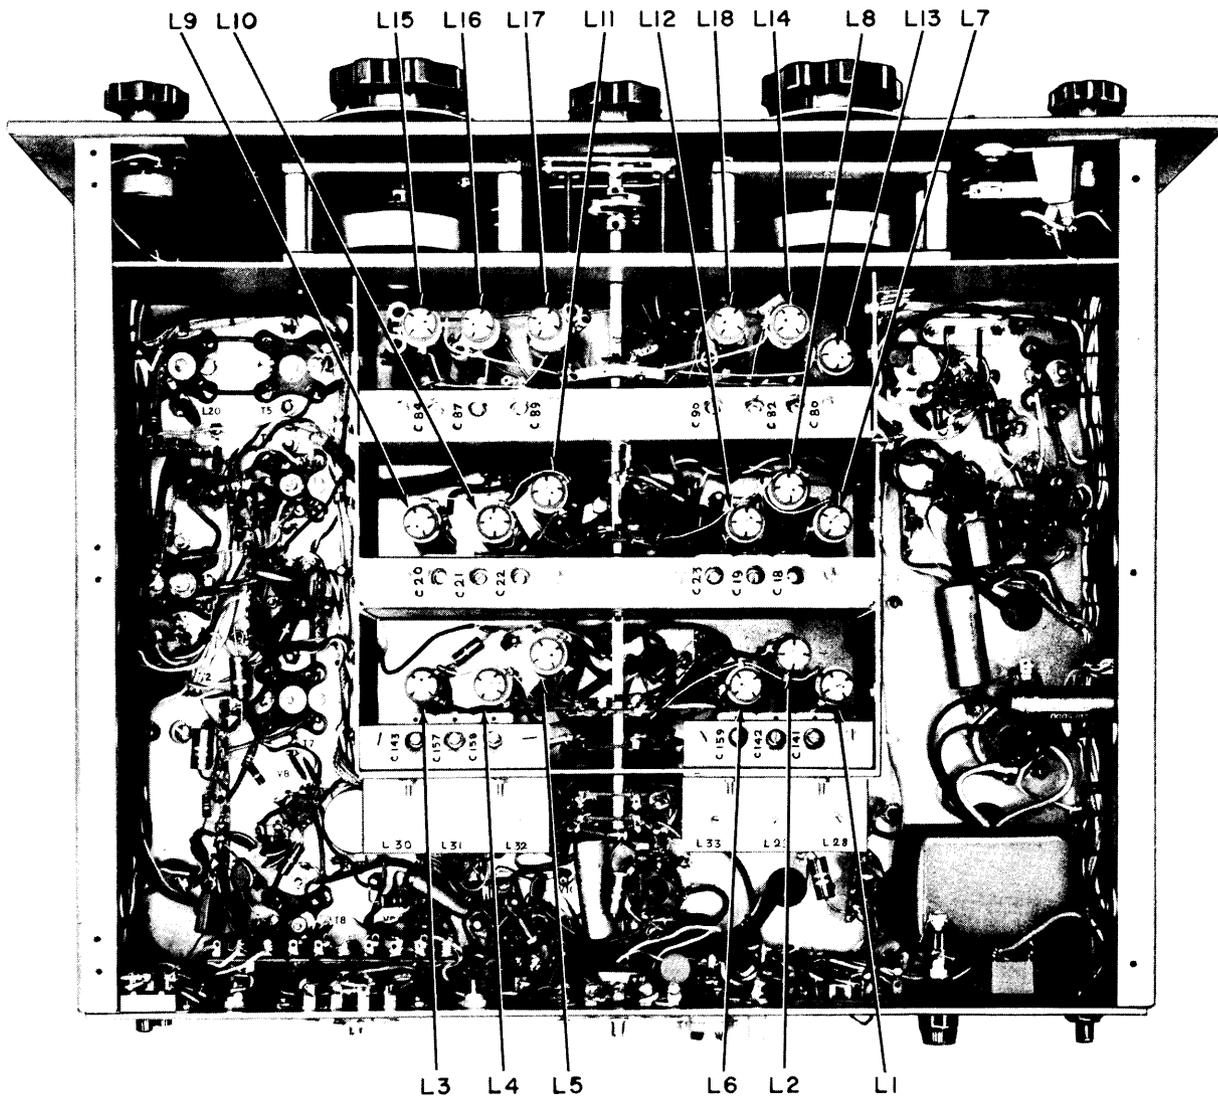

Figure 5-3. Location of Major Electronic Components, GPR-90RXD, Bottom View
(6) RF ALIGNMENT. - The frequencies for the RF alignment and the location of these adjustments are shown in figure 5-3. The lowest frequency band is aligned first, followed by the next higher band. The alignment procedure for the broadcast band will be described so that the remaining bands can be aligned in a similar manner. The signal generator is coupled to the antenna jack.